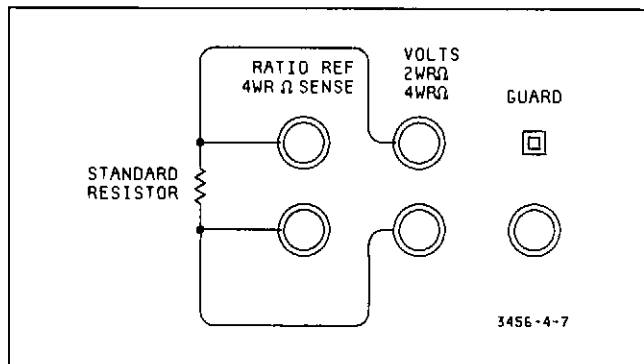

Figure 4-7. Ohms Test.
e. Connect the 100 ohm resistor to the 3456A's input terminals. Refer to Figure 4-7 on how to connect the 100 ohm and other Standard Resistors to the instrument. Record and check the reading.